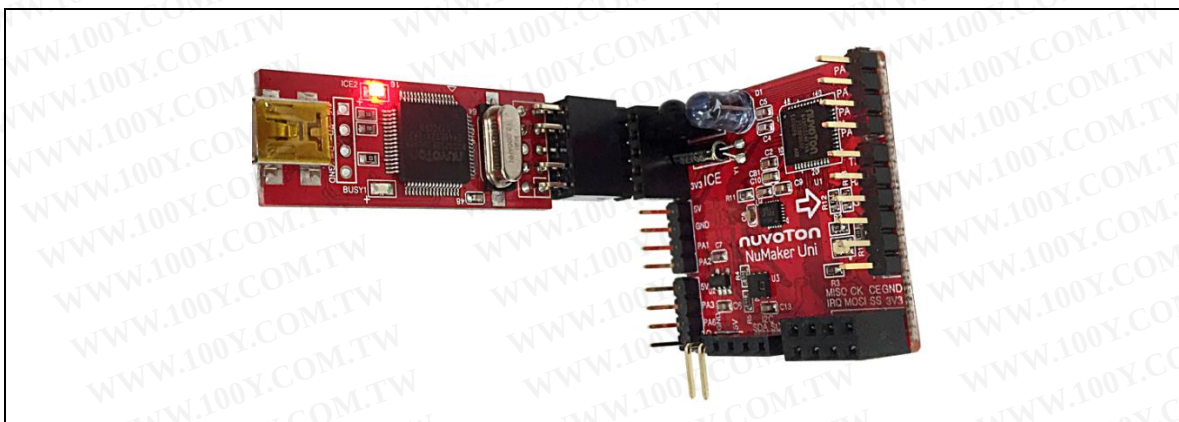

Figure 5-2 NuMaker Uni and Nu-Link Mini Connection
1. Connect Nu-Link Mini to NuMaker Uni on its ICE port (J2) as shown in Figure 5-2.